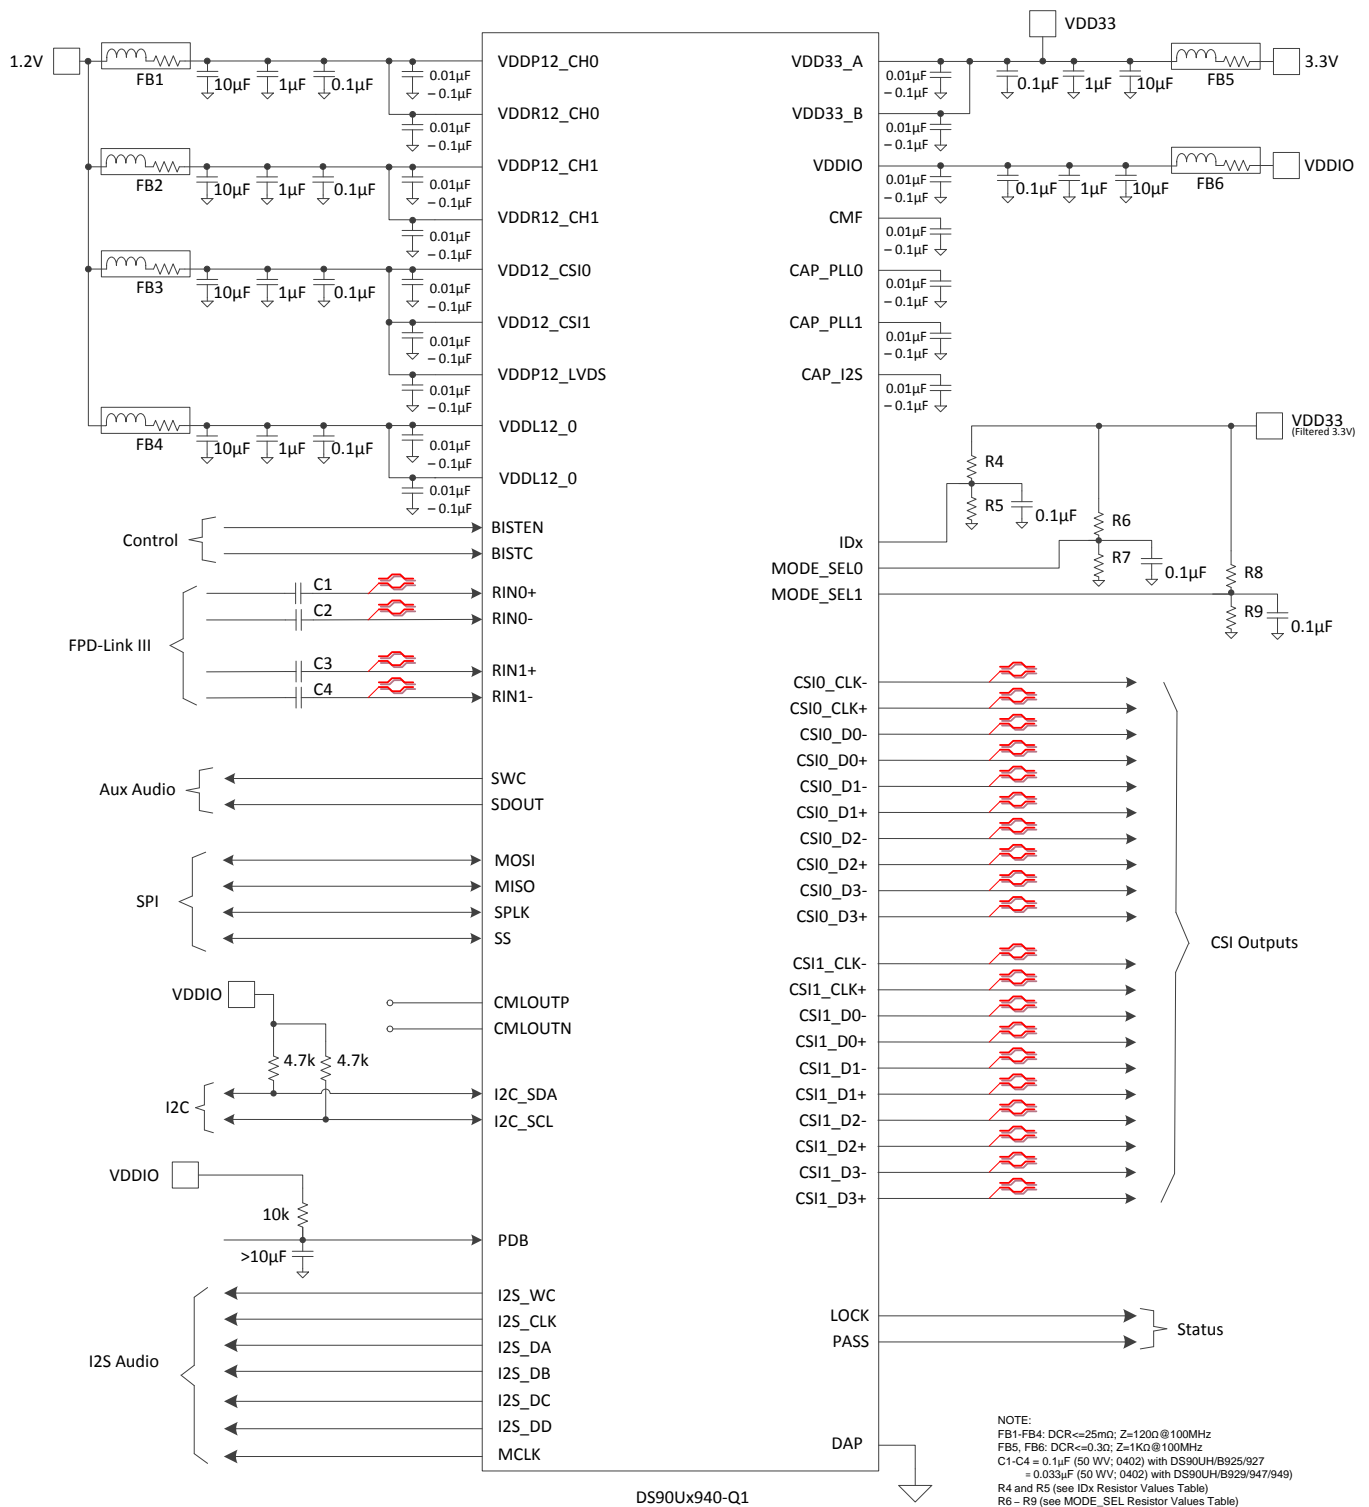

Figure 37. Typical Connection Diagram (STP)
Bypass capacitors should be placed near the power supply pins. At a minimum, four (4) 10μF capacitors should be used for local device bypassing. Ferrite beads are placed on the two sets of supply pins (VDD33 and VDDIO ) for effective noise suppression. The interface to the graphics source is LVDS. The VDDIO pins may be connected to 3.3V or 1.8V. A capacitor and resistor are placed on the PDB pin to delay the enabling of the device until power is stable. See Figure 37 for a typical STP connection diagram and for a typical coax connection diagram.